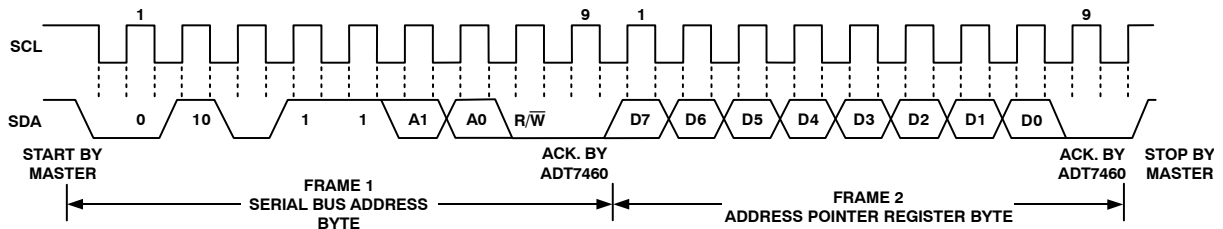

Figure 18. Writing to the Address Pointer Register Only
- ◆ If the ADT7460's address pointer register value is unknown or not the desired value, it is first necessary to set it to the correct value before data can be read from the desired data register. This is done by performing a write to the ADT7460 as before, but only the data byte containing the register address is sent because data is not to be written to the register. This is shown in Figure 18.
- ◆ If the address pointer register is known to be already at the desired address, data can be read from the corresponding data register without first writing to the address pointer register, so Figure 18 can be omitted.